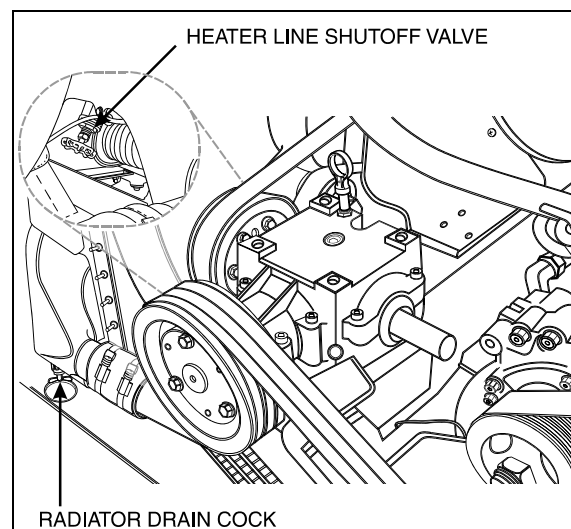
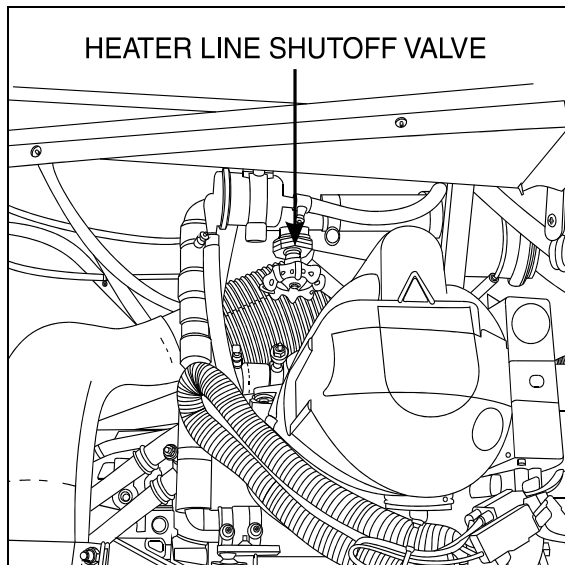

FIGURE 5: ENGINE COMPARTMENT
FIGURE 6: REAR ELECTRICAL COMPARTMENT 05058
1. Stop engine and allow engine to cool. Close both heater line shutoff valves. One valve is located in the engine compartment under the radiator fan gearbox (Fig. 5). Another valve is located in the L.H. rear electric compartment near the optional coolant heater (Fig. 6).
5. Open the radiator drain cock (Fig. 5).